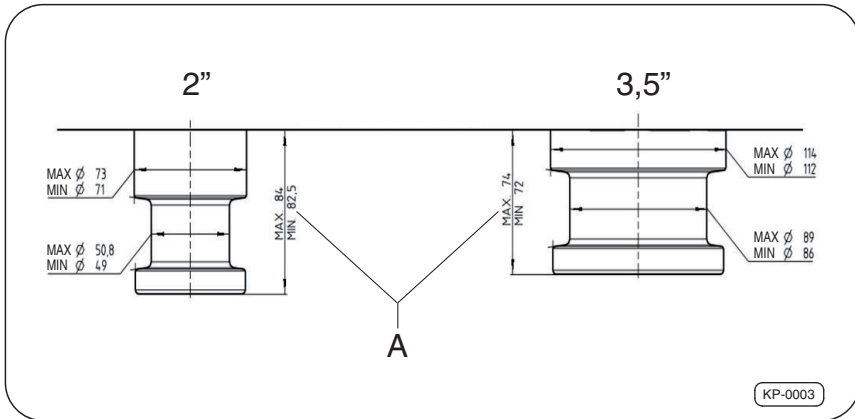

Fig. 11 · Pin wear check
- 3 The height of the fifth wheel kingpin in –Zone A–, Fig. 11 for 2", must be between min. 82.5 mm and max. 84 mm and for 3.5" between min. 72 mm and max. 74 mm as of the lower edge of the trailer. If the dimensions do not match, the fifth wheel kingpin must be replaced immediately Page 21.